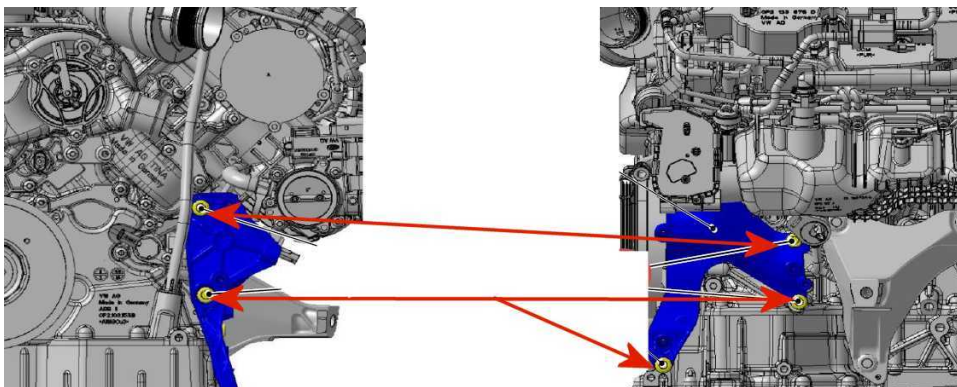

Figure 4
- Left hand lower bracket (Figure 4) - Torque to 20 Nm